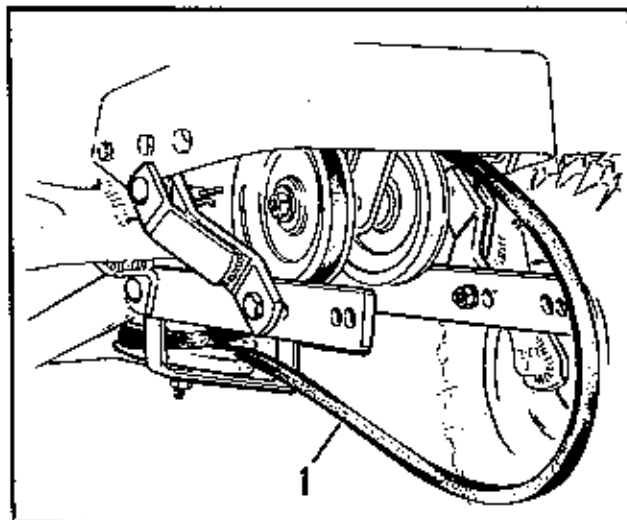

Figure 3.
4. Pull the rotor drive belt to bring all slack forward on the left side of the tractor as shown at 1, Figure 3. Install the slack end of the belt in place around the rotor drive pulley.